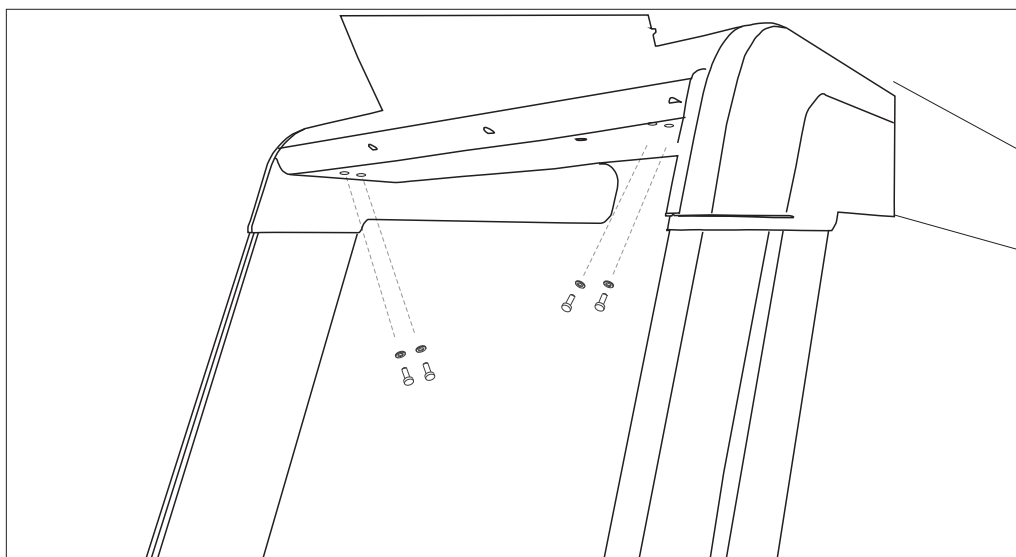

Figure 6
(9) Align the screw holes between the bottom of screen and console module after the screen is fitted into the console platform well and then screw in M8*25 hexagonal fillister head screws and M8 flat gasket with 5# hexagonal spanner. (See Figure 6)